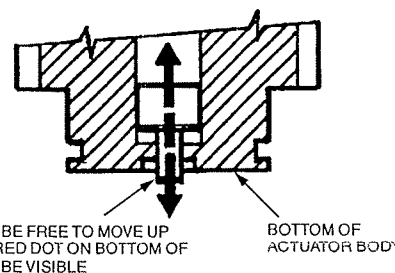

FIGURE 3
12. Make certain piston on bottom of actuator is free to move up and down. Red dot on bottom of piston stem must be visible. See Figure 3. **NOTE:** If pin is not visible in bottom hole of actuator, the piston has been re-installed incorrectly. Disassemble and correct.